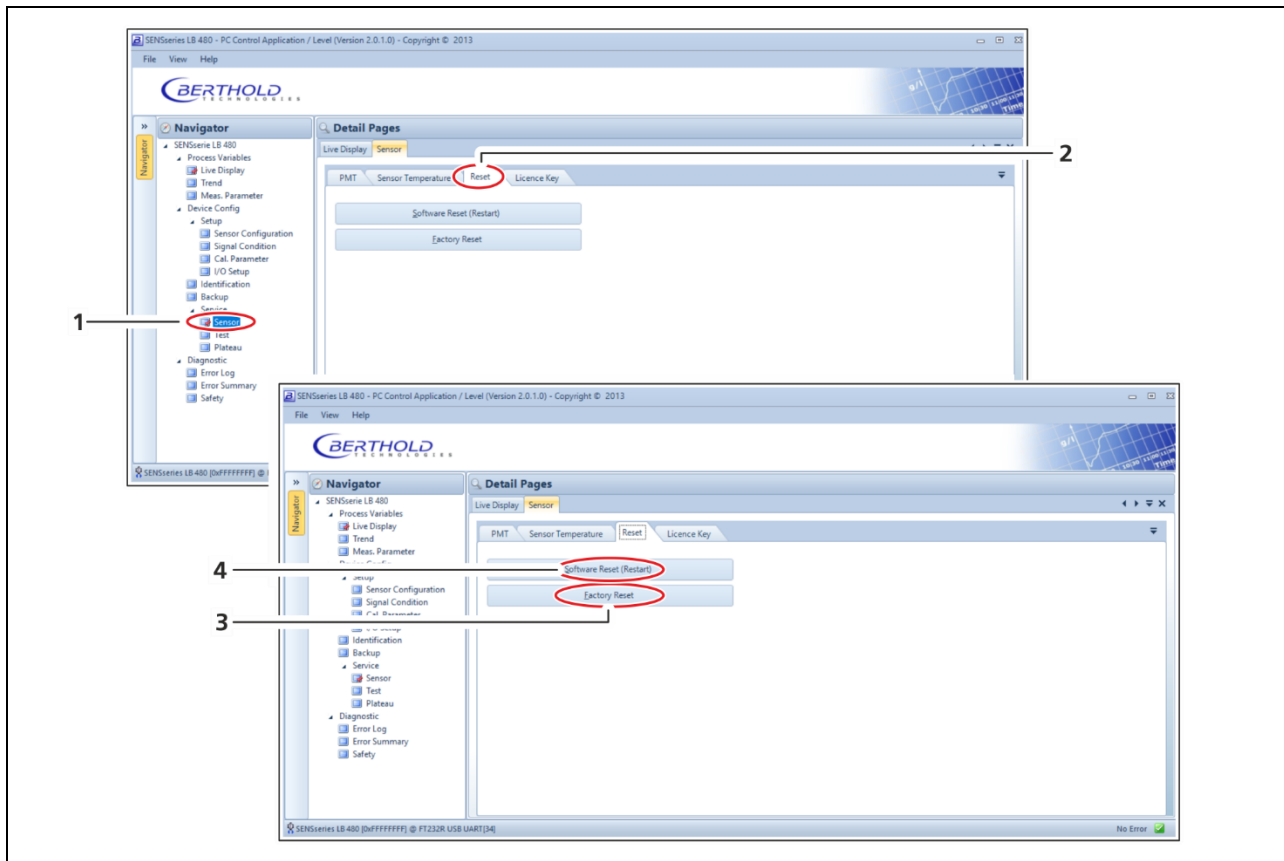

Fig. 8 Factory Reset and Software Reset (SW-Reset)
30. Open the software *LB 480-PC UserInterface Level* (Baudrate 38400) and click in the menu tree on **Device Config ► Service ► Sensor** (Fig. 8, Pos.1).
31. In the tab "Reset" (Fig. 8, Pos.2) click on the button <Factory Reset> and confirm with <Yes> (Fig. 8, Pos.3).
32. After the factory reset, perform a software reset by clicking on the <Software Reset> button (Fig. 8, Pos.4).